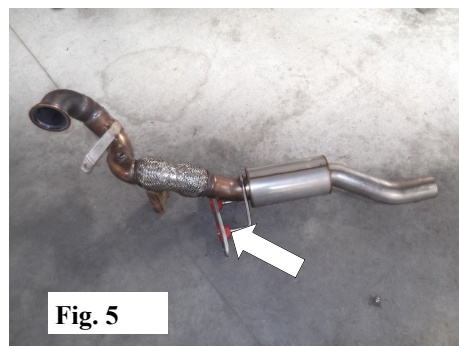

Fig. 5
6. Disconnect O2 sensors, bracket and transfer to your new down pipe. (See Fig. 5)
1. Transfer and install OE O2 Sensor, bracket to **Down Pipe Assembly**. (See Fig. 5)